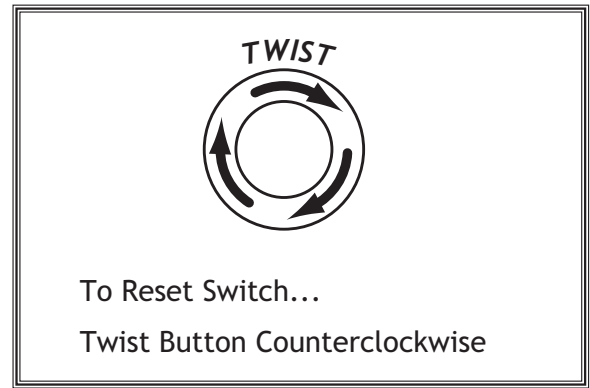

Figure 14. Resetting the emergency stop button.
7. Push the *emergency stop* button in, then twist it clockwise so it pops out. When the button pops out, the button is reset and ready for operation (see **Figure 14**).